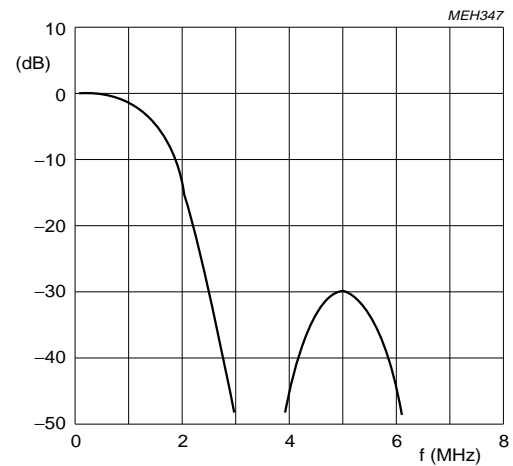
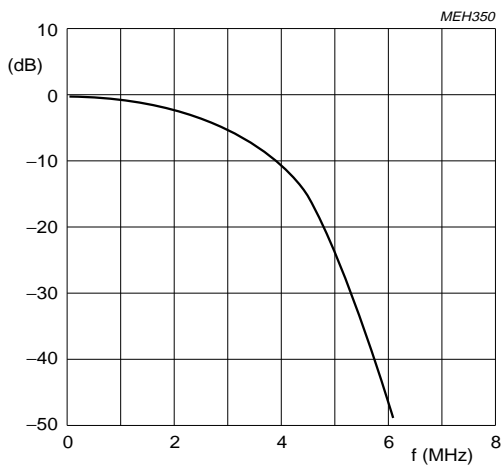

Fig.5 Overall transfer characteristics 4 : 1 : 1
Fig.8 Overall transfer characteristics 4 : 2 : 2 input data (SCBW-bit = 0).
3. Interpolation at 13.5 MHz for 4 : 2 : 2 input data into 4 : 4 : 4 data before modulating baseband signals onto the colour subcarrier. Figures 5, 6 and 7 show the overall transfer characteristics of chrominance in "standard bandwidth condition" (SCBW = 1). Figures 8 and 9 show the overall transfer characteristics of chrominance in enhanced bandwidth condition (SCBW = 0), which is not possible for 4 : 1 : 1 input data. The transfer curves are slightly different at 12.27 and 14.75 MHz.